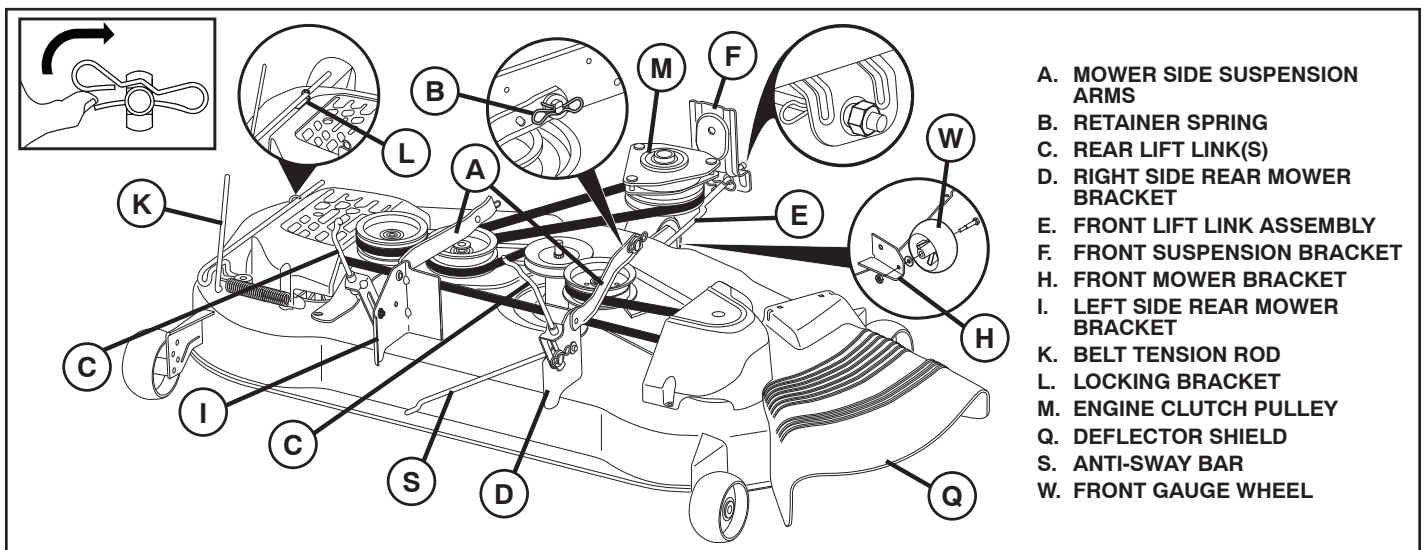

Fig. 7
## 9 INSTALL BELT ON ENGINE CLUTCH PULLEY (M) (See Fig. 7 & 15)
- Disengage belt tension rod (K) from locking bracket (L).
- Install belt onto engine clutch pulley (M).